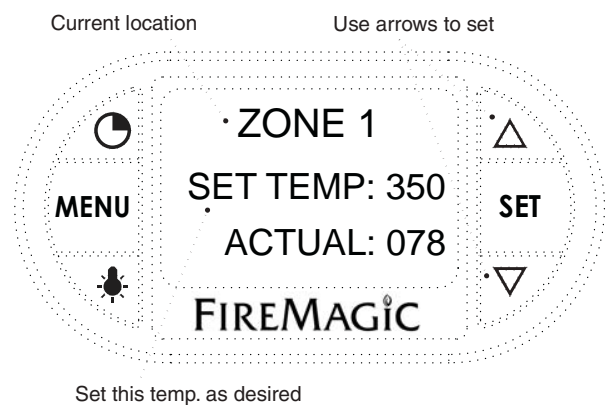

Fig. 24-4 Location temp. screen (zone 1 shown)
2. The selected location's temperature screen will be displayed. Use the arrows to set the desired temp. The actual temp. will also be shown. (See Fig. 24-4.)